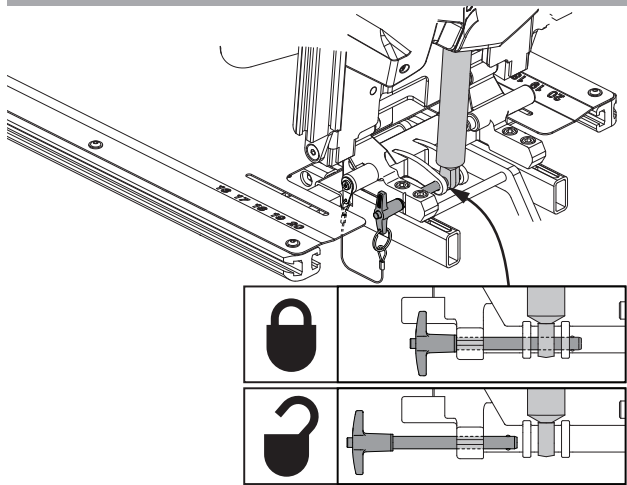
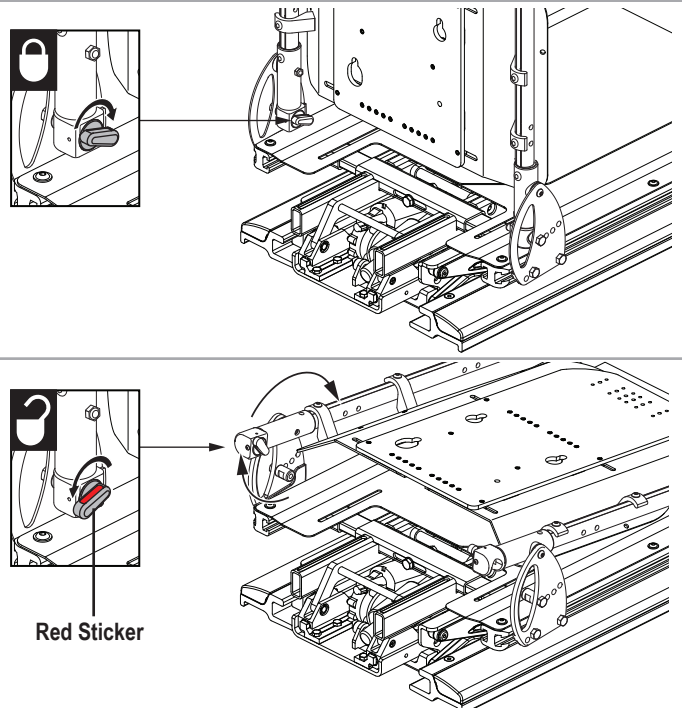

Figure 6. Flip-forward Back (Detent Pin)
Figure 7. Flip-forward Back (Release Lever)
2. Remove the detent pin (**see figure 6**) OR rotate the release lever on both back canes toward the rear of the seat to disengage the back. **See figure 7.**
2. Reinstall the detent pin and ensure all components are secure (**see figure 6**) OR rotate the release lever on both back canes toward the front of the seat to latch the back canes. Ensure a red sticker on the release lever is not visible. **See figure 7.**